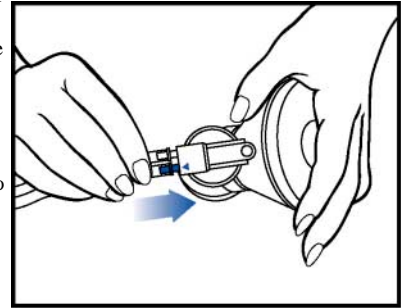

Figure 13
2. If necessary, insert tubing into Filter Caps (See **Figure 13**) — **blue to blue**, clear to clear. Plug opposite ends into Motor — **blue to blue**, clear to clear. Plug 6' cord into Power Supply. Plug opposite end into electrical outlet. Then, plug single prong pin into Motor near ON/OFF switch. Turn vacuum dial clockwise to maximum setting, then back one full turn.